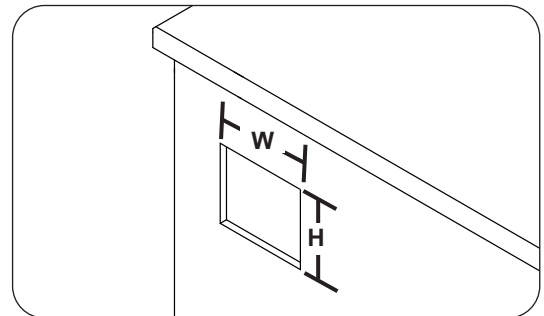

Fig. 2-3 Cut out dimensions
1. Create box cutout in grill enclosure (see Fig. 2-3).